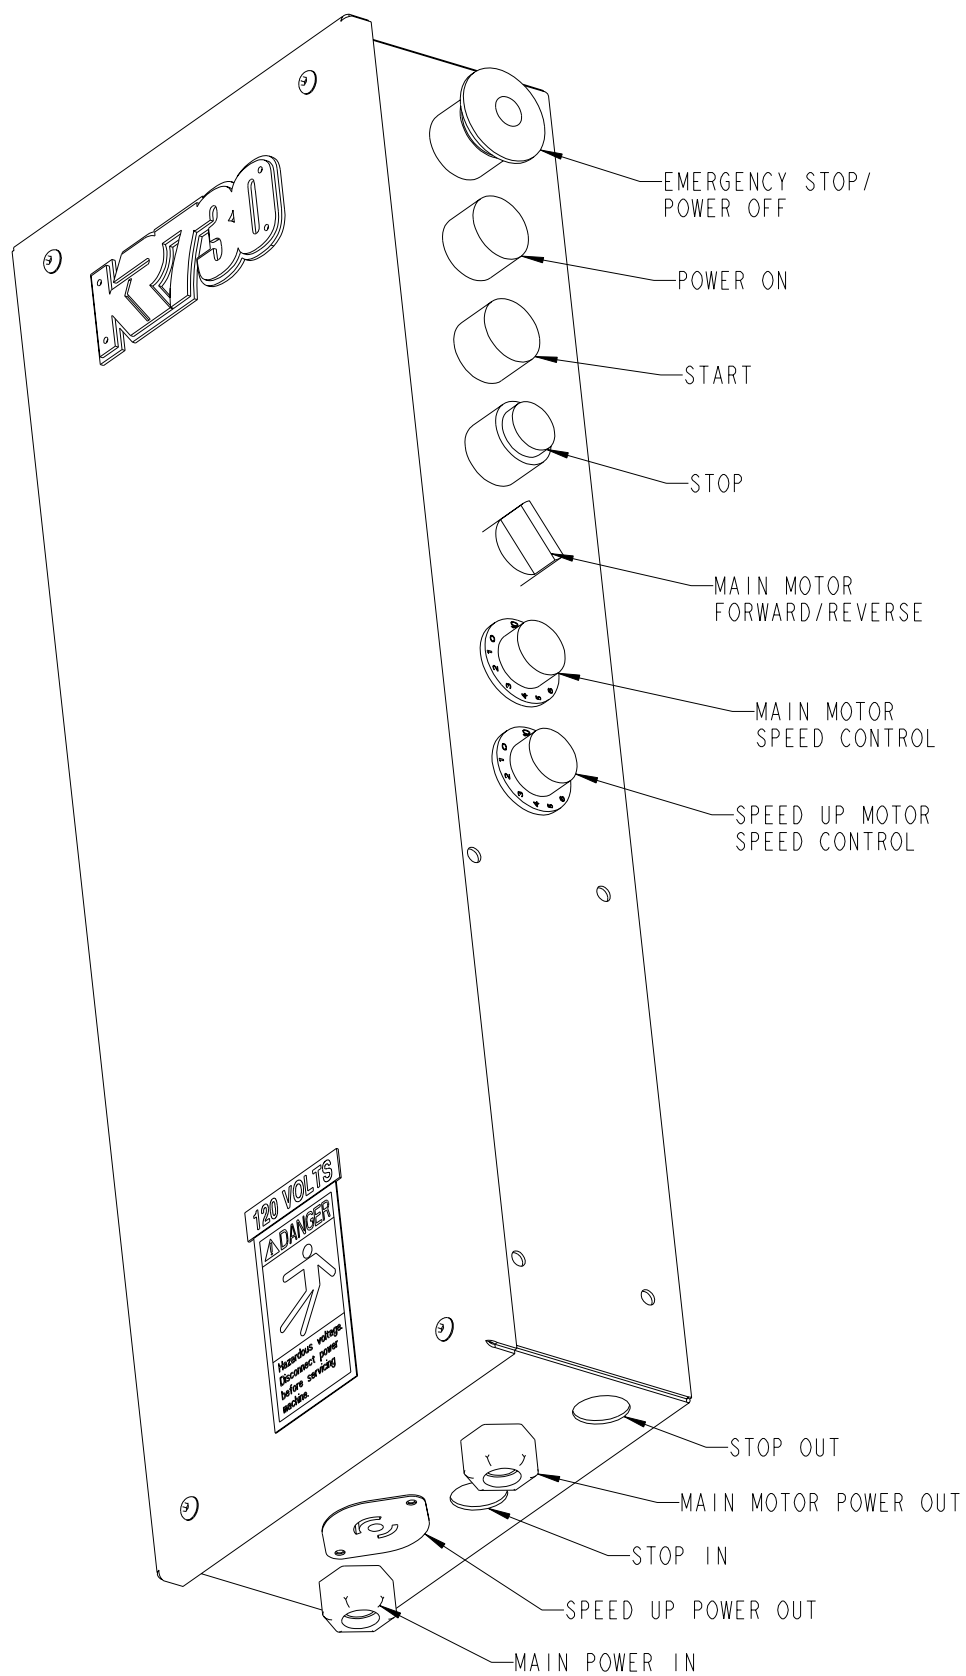

FIGURE 3.0
1. **Control Panel/Electrical Box:** This is where the all of the electrical controls and components are housed. (See Figure 3.0 for further illustration)
4.1.2 Electrical Box Component Description (See Figure 3.0)